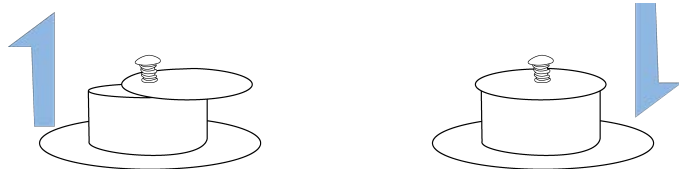

Fig 3.
- On all glassware drying ovens covered in this manual the exhaust is on the left and the inlet is on the right as you look at the oven. Due to the location and number of fans in the different models the location may differ slightly, but they are still in this configuration. (**Fig 3**).